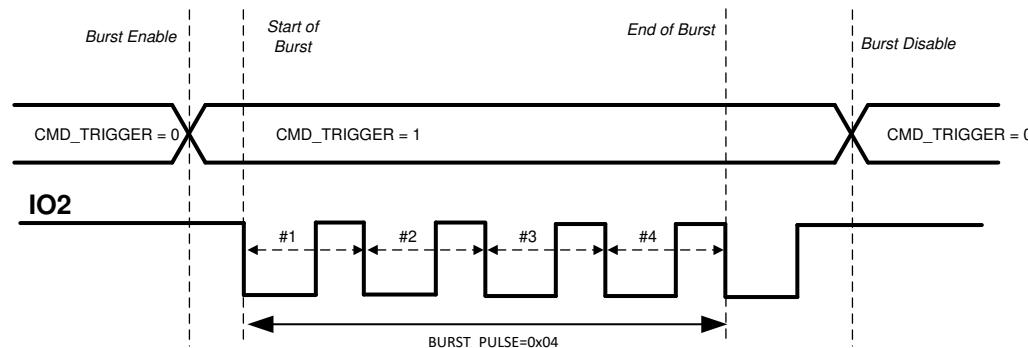

图 15. IO\_MODE 0 Description
- IO\_MODE = 0:** In this mode, the external clock for the transducer is applied at the IO2 pin and the burst mode is enabled by setting the CMD\\_TRIGGER in the TOF\\_CONFIG register through SPI, as shown in 图 15. The device then expects a clock at IO2 pin to generate pulses on the OUTA/OUTB pins. The start of burst happens from the first falling edge of IO2. The number of pulses are counted by counting falling edge to next falling edge transitions on IO2 once the start of burst is triggered. The end of burst sequence is signaled when the number of pulses defined in BURST\\_PULSE are sent, or when the CMD\\_TRIGGER = 0 is set through SPI, whichever occurs earlier. TI recommends that IO2 is held high before burst enable to count the number of pulses correctly. After the start of burst, the state of OUTA and OUTB pins are determined by IO1 and IO2 pins as shown in 表 22. A transition of CMD\\_TRIGGER from high to low to high again is required to initiate a new burst sequence.